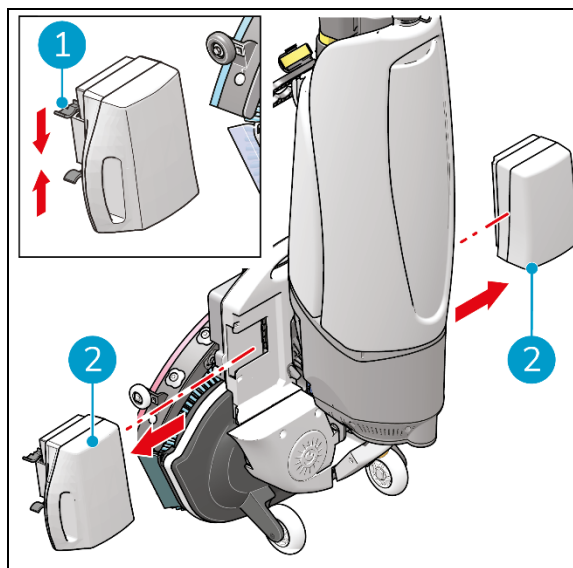

Figure 29
3. While pressing both plastic pins inwards (Figure 29, pos 1), pull each battery pack away (Figure 29, pos 2).